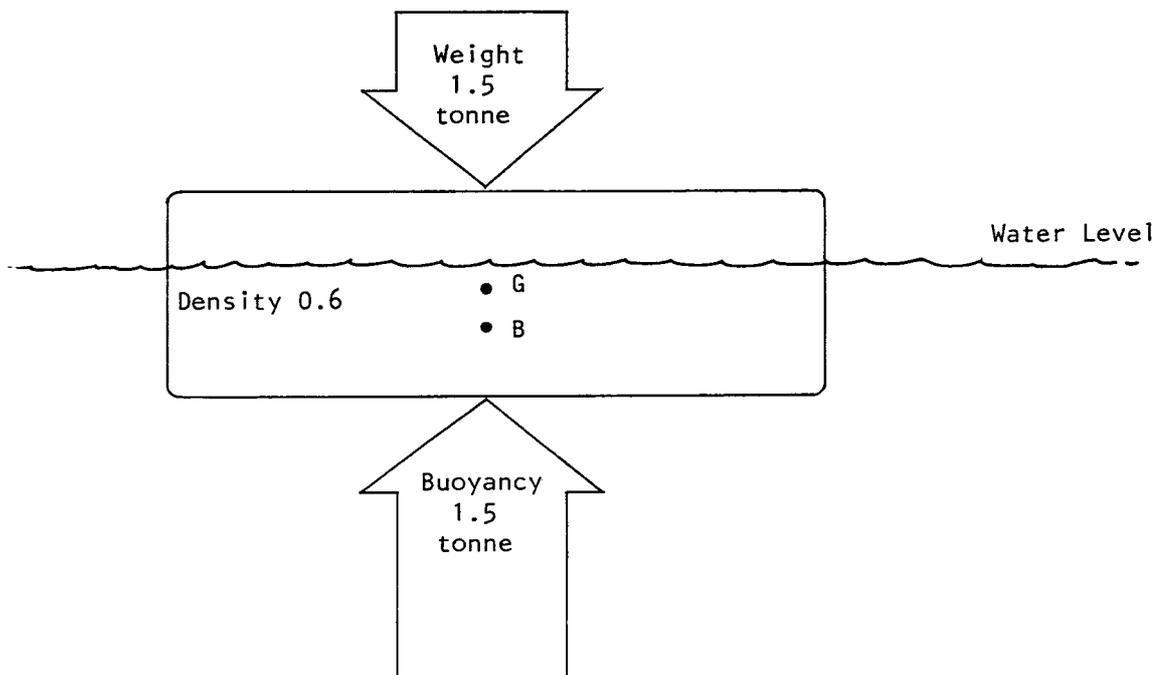

Fig. 1.1 Weight vs Buoyancy
In Figure 1.1, the weight of the log acts directly downwards through its centre of gravity (G), and the force of buoyancy acts vertically upwards through the centre of buoyancy (B).